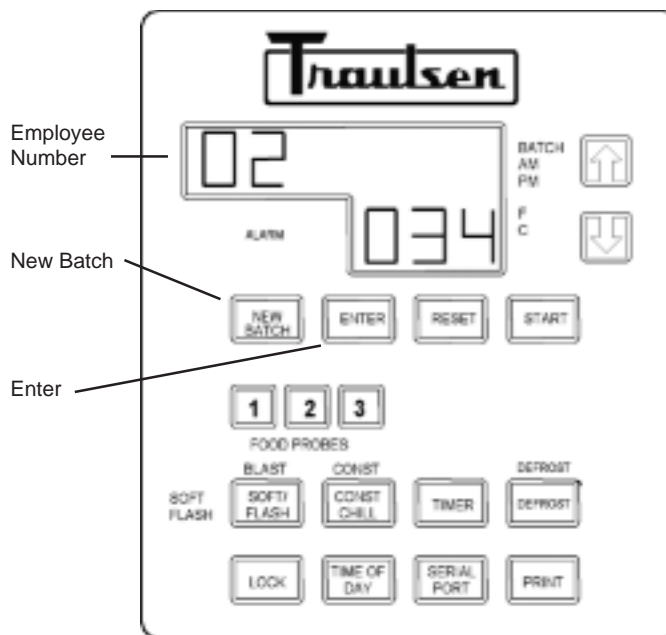

Fig. 29
STEP 1: To operate the unit in Blast Chill mode, press the button labeled "NEW BATCH". Notice that the first two (2) digits start to flash in the display (see figure 29). These two digits can represent an employee's number to identify the person running the batch. To change the numbers in the display, use the UP and DOWN arrows to set specific numbers. When the number is set, press ENTER to proceed to the next step.